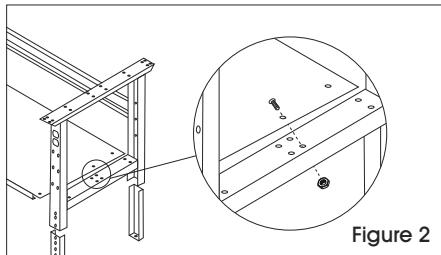

Figure 2
4. Place lower shelf (4) across braces of legs. Attach lower shelf using eight 1/4-20 x 5/8" bolts and nuts (16 bolts and nuts for the 96" workstation). Now, fully fasten hardware placed in step 3. (See Figure 2)